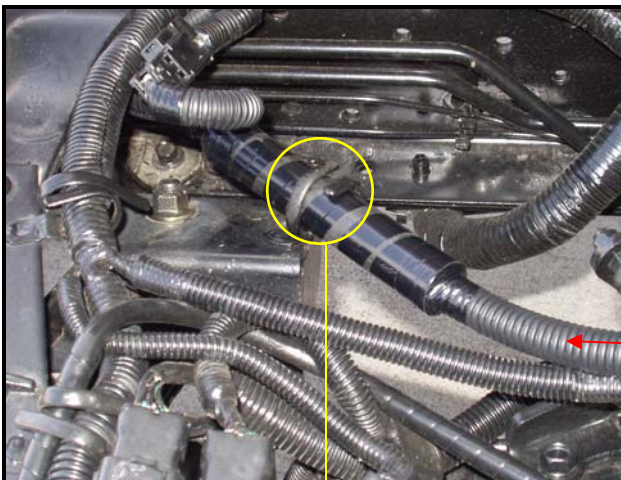

Figure B2 (2005 MY) With retaining clamp on Transmission mount
STEP 3B (Metal retaining clip in place) Install, route and secure the battery cable through the welded metal retaining clamp as shown in Figure B2.